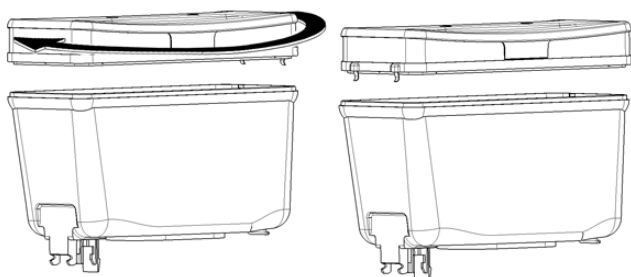

figure 1
- 9 On machine equipped with lighted top cover turn the cover for 180 degrees to switch light off. (see figure 1)